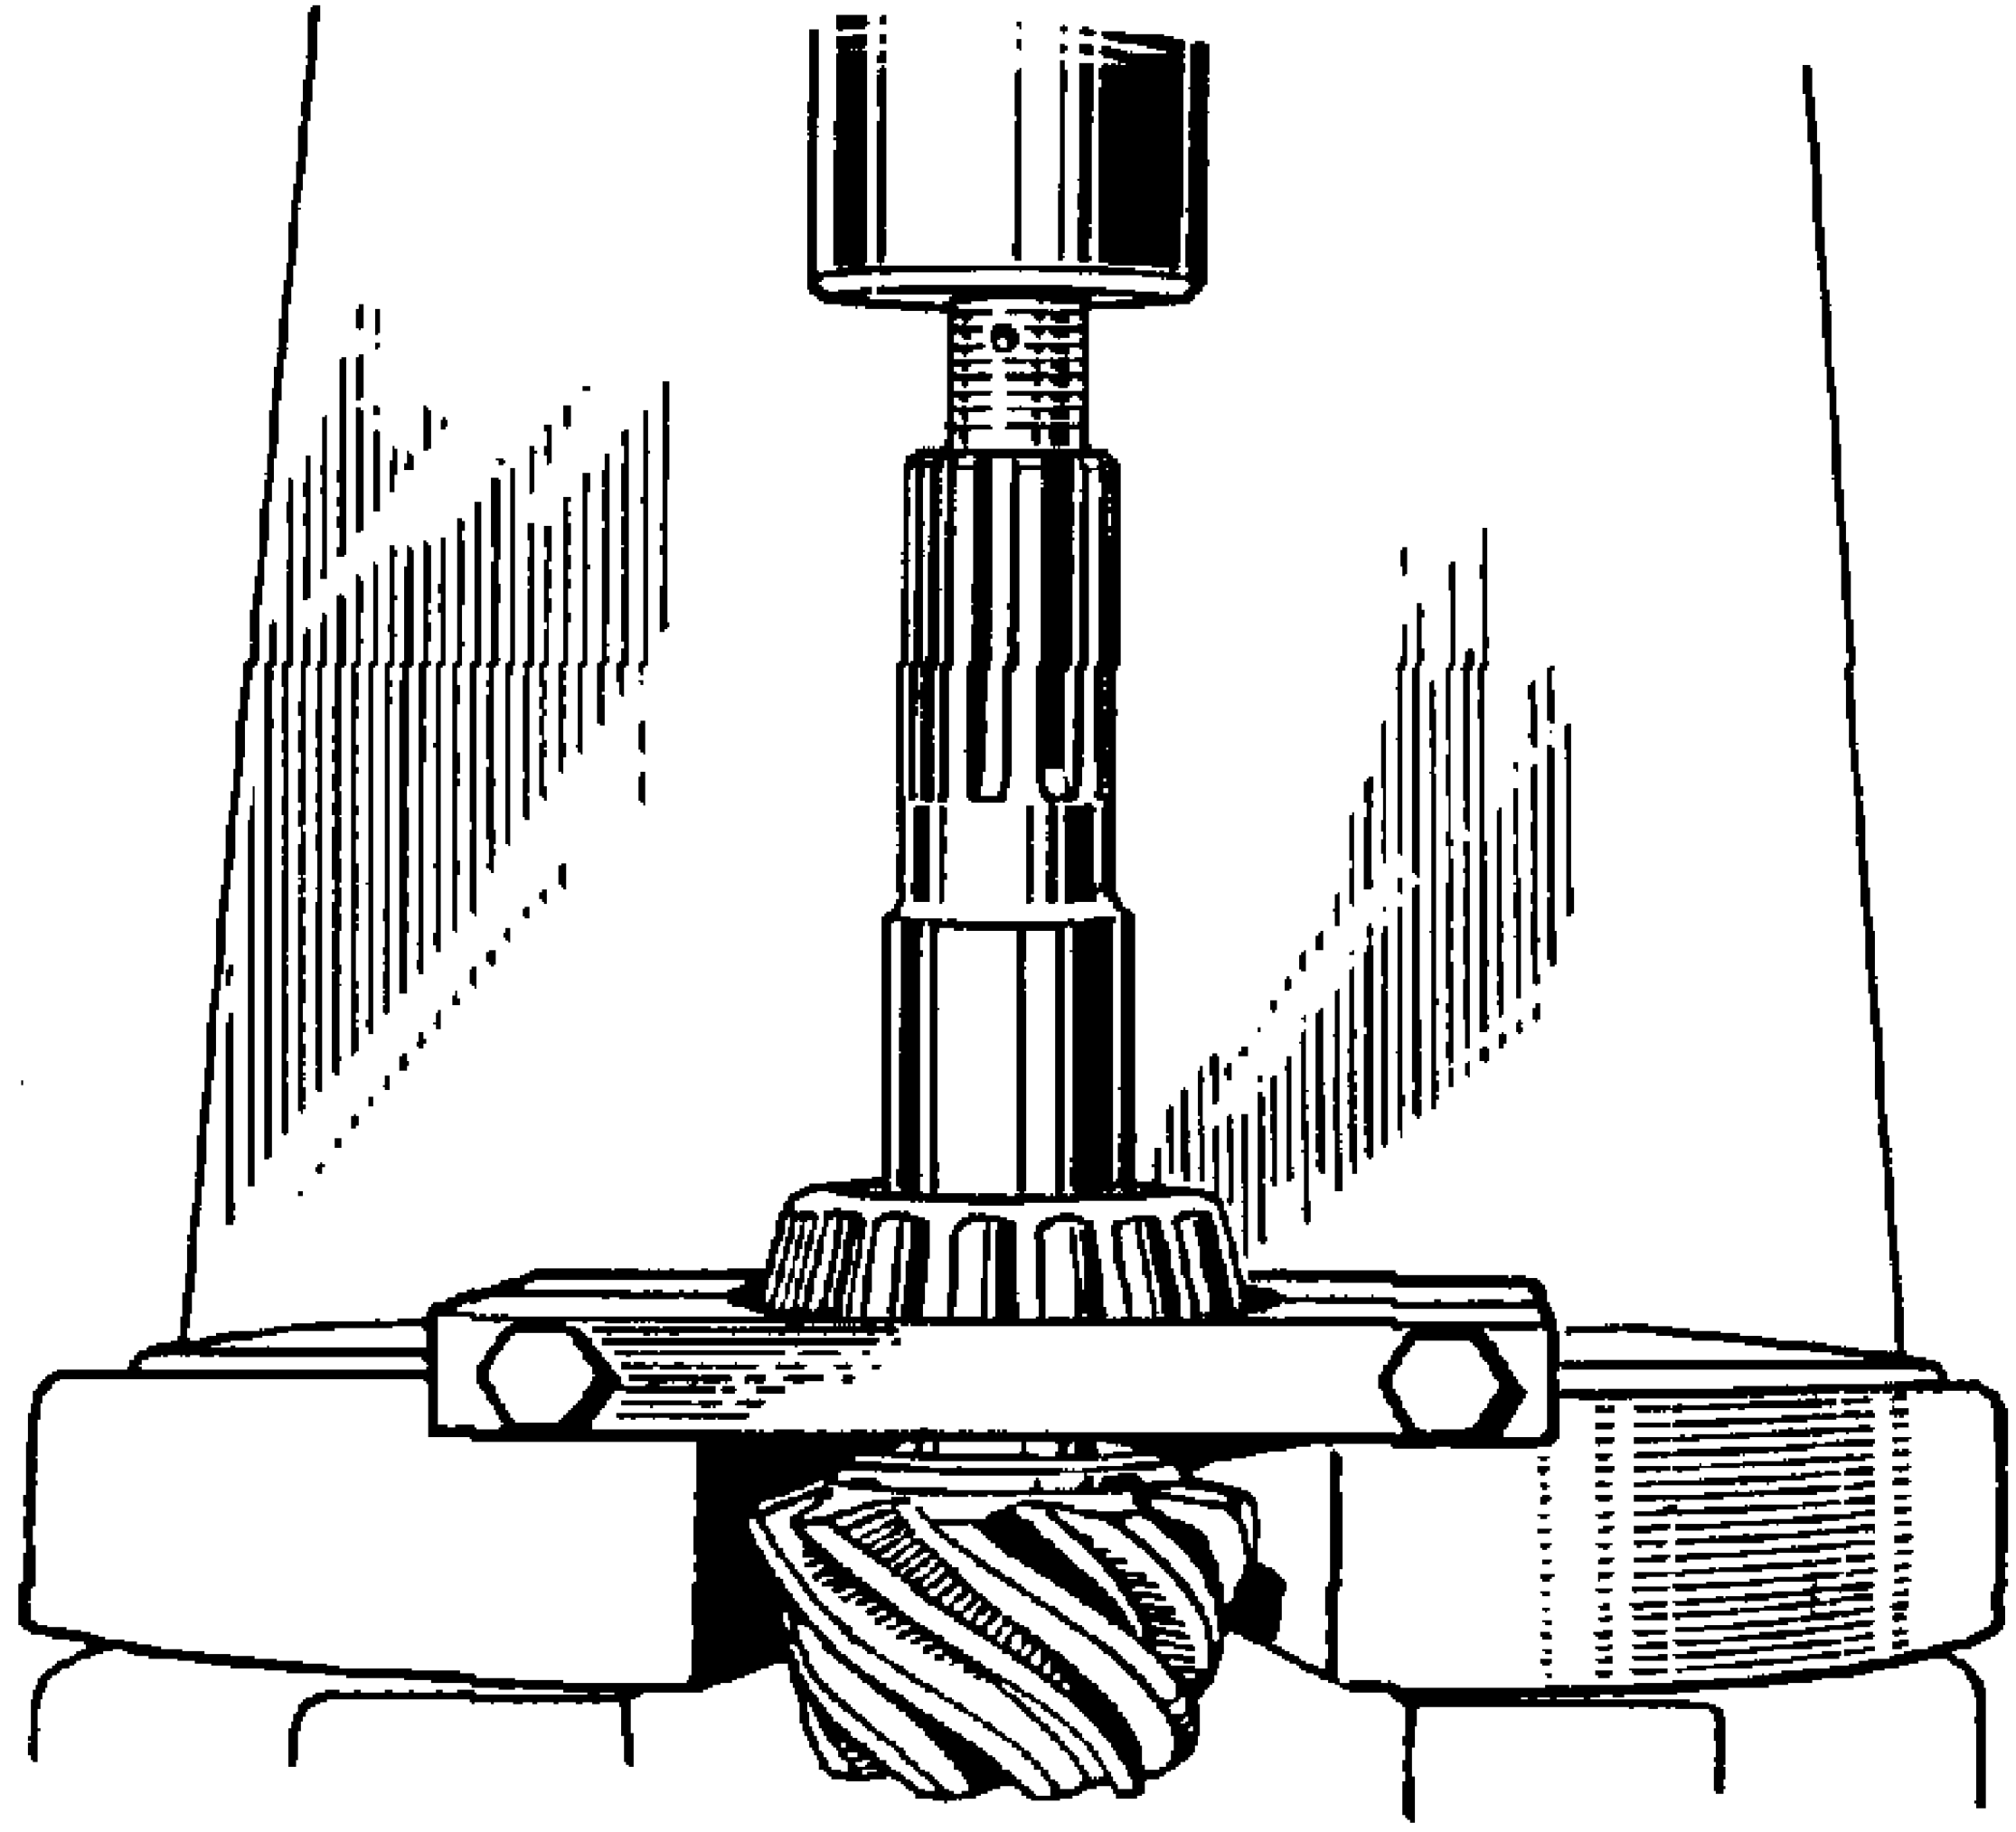

FIG. 5--REMOVING PINION BEARING CONE
12. To remove the drive pinion rear bearing cone use bearing removing tool or press off in an arbor press, Fig. 5.